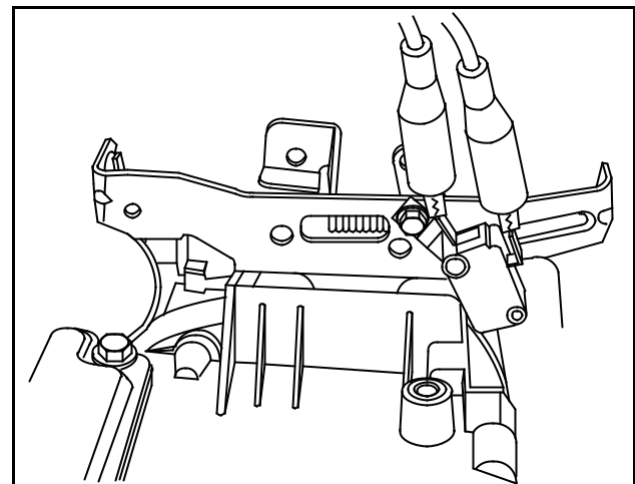

Fig. 15
3. Connect meter test leads or continuity light to two spade terminals of switch, Fig. 15. Light should not be on or meter should read no continuity.